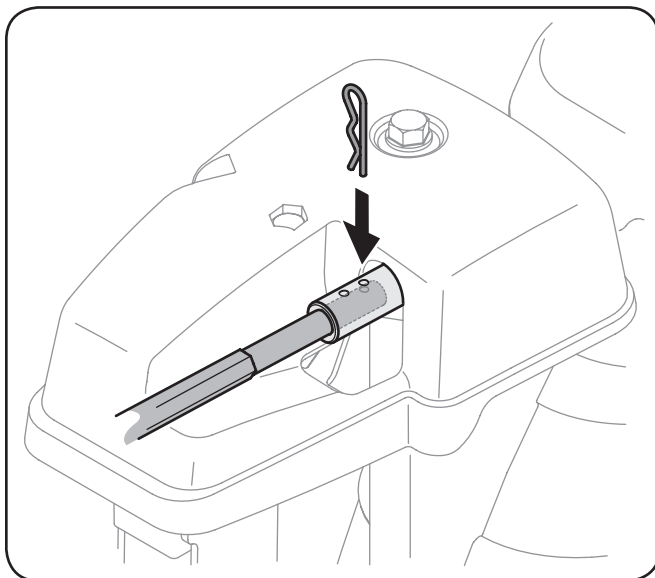

Figure 3-9
7. Push the chute control rod toward the control panel until the hole in the rod lines up with the hole in the chute control input closest to the chute control head and insert the hairpin clip removed earlier. See Figure 3-9.